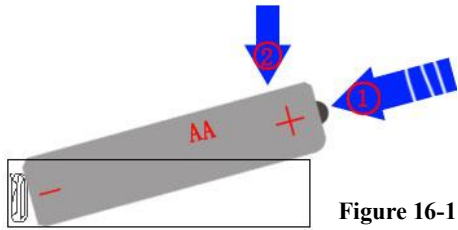

Figure 16-1
2. Put batteries into the **Rear panel Assembly** properly. As shown in **Figure 16-1** and **16-2**: